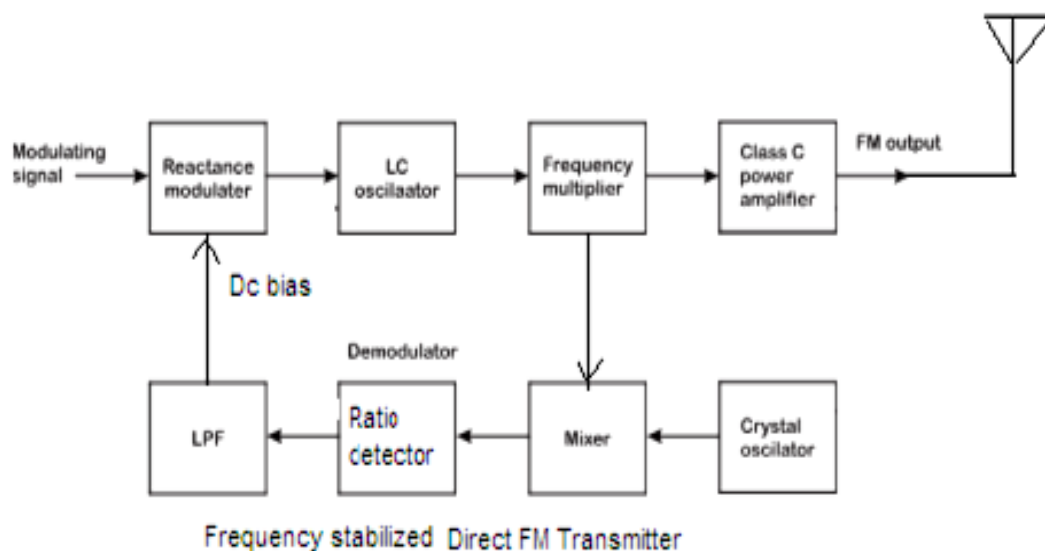

Fig.3.4
The block schematic of Direct FM transmitter is shown in Fig. 3.4.
- ❖ Stability can be improved by using automatic frequency control (AFC). Above fig 3.4 shows one possible arrangement.